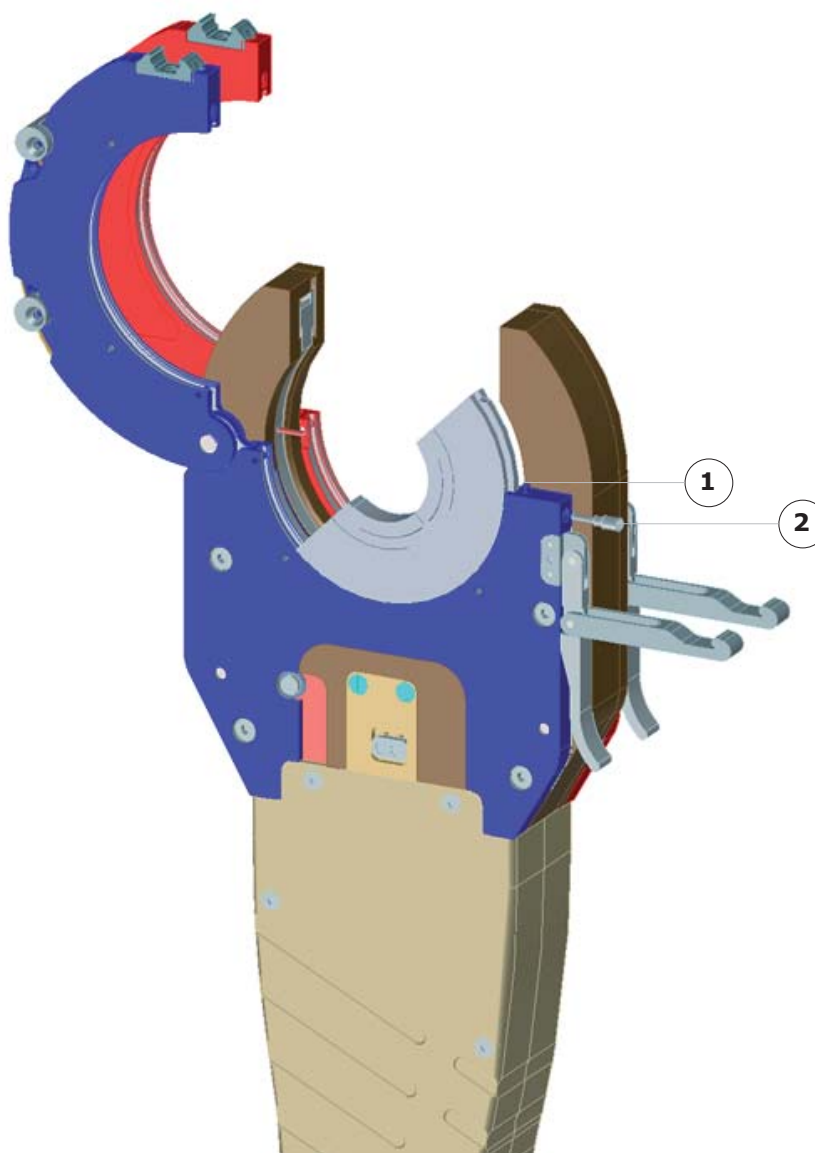

Fig.5.4 - Installing shells
- Place the notches of the locking system (Fig. 5.4 - 1) into the clamping system. The diameter and identification letter markings must be on the outside of the head.
- Lock the shell by tightening the screws (Fig. 5.4 - 2).